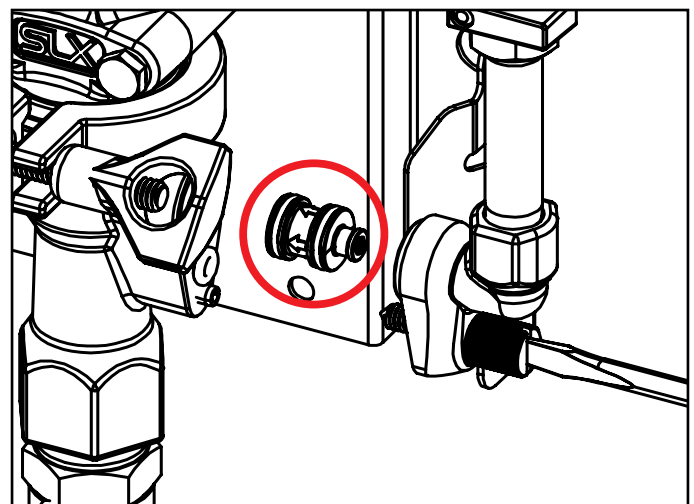

Fig. 8.3: SLX Check Valve (correct orientation)
5. The check valve will be seated either inside of the elbow or the foamer body. Grab it and pull to remove. [Fig 8.3]